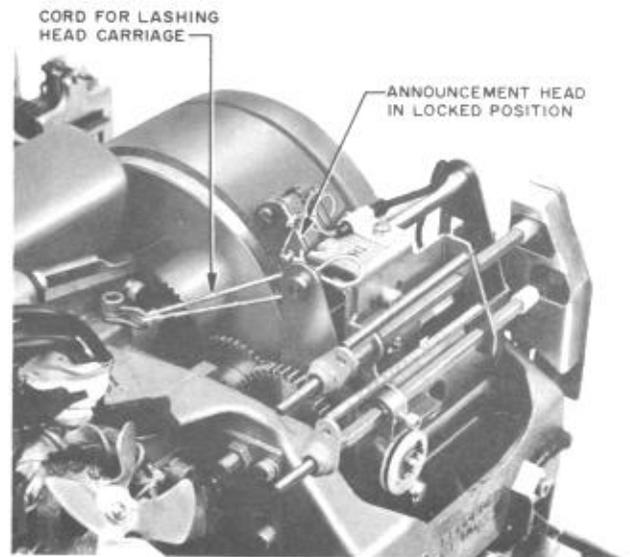

Fig. 10 - Head Carriage Lashing and Locking
- 1.14 Fig. 10 identifies lashing to be removed at time of installation.